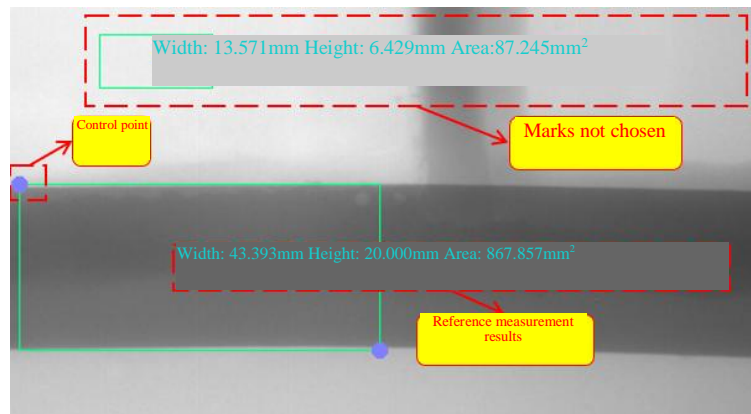

Fig. V-47 Rectangular Measurement Mark
1) Click the toolbar icon  or "Tool (T)" ->"Measurement" ->"Rectangle" in the menu bar to enter rectangular measurement.
2) Move the mouse to the position to be measured and click once. When a control point appears in the image, click the control point and drag the mouse to make the rectangular area just cover the area to be measured. The length, width and area of the rectangle are automatically displayed near the rectangle box (Fig. V-47).